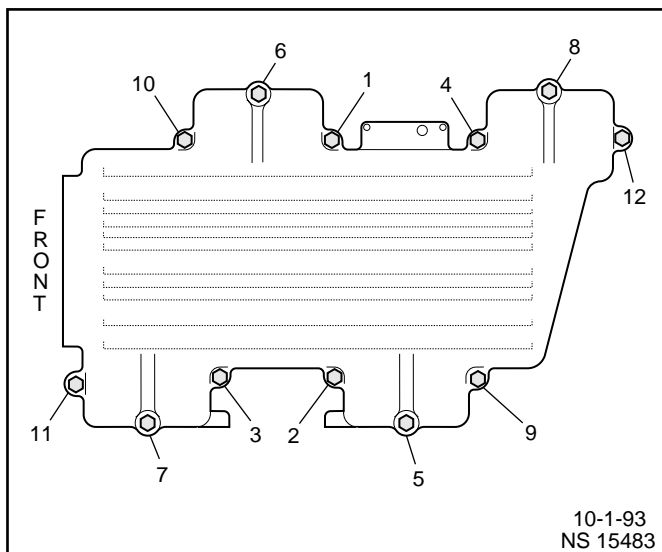

Figure 3-14 - Intake Plenum Tightening Sequence
4. All plenum retaining bolts. Torque to 14 N·m (124 lb.in.) in sequence as shown in Figure 3-14.